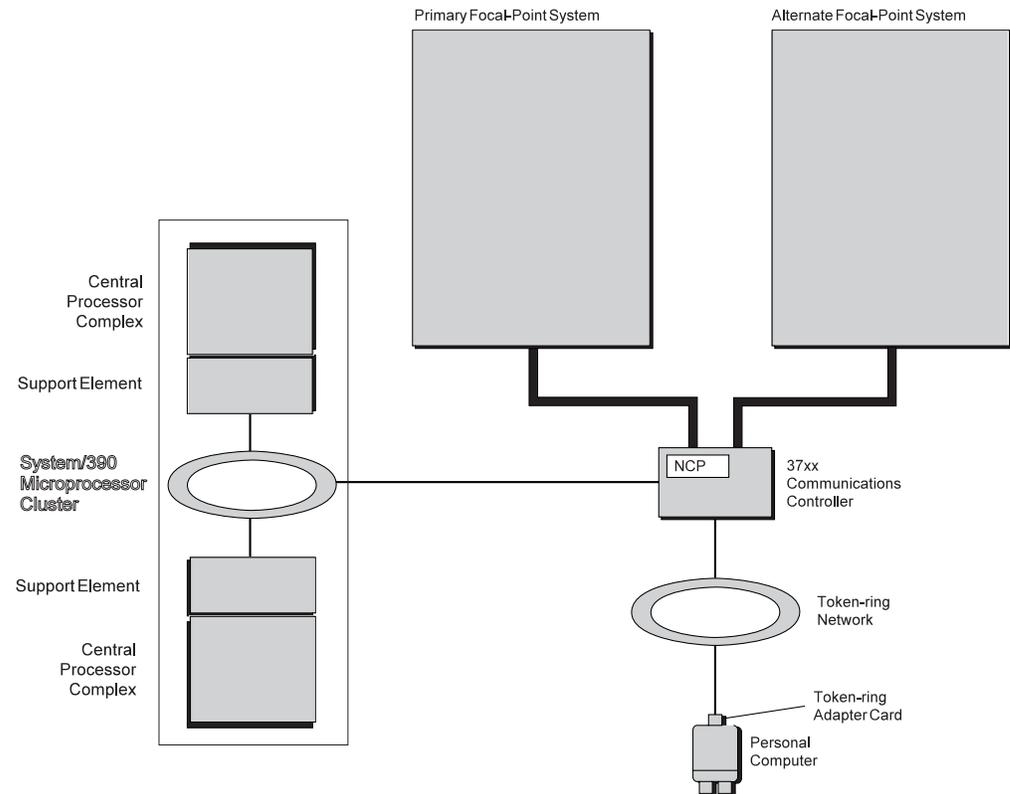

Figure 24. Alternate and Primary Focal Point System Connections to a Token-Ring Network through a 37xx Controller
**Token-Ring LAN Connection:** The alternate focal point system connects to the token-ring LAN in the same way as the primary focal point system. Figure 24 shows an alternate focal point system as well as a primary focal point system connected through a single 37xx communications controller with NCP and NTRI installed. The figure does not imply that the alternate focal point system must be in the same physical location as the primary focal point system.